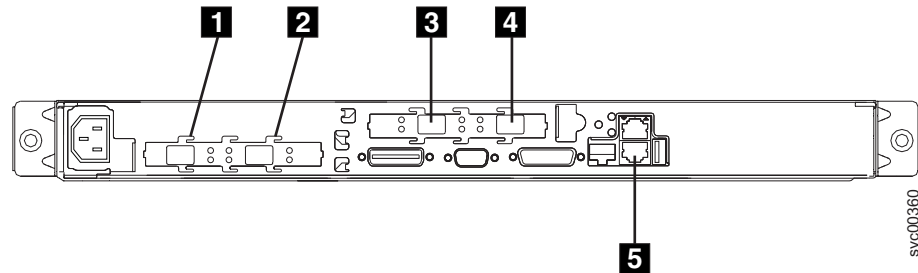

Figure 121. Connectors at the back of the SAN Volume Controller 2145-4F2
1. Connect the Ethernet cable to Ethernet port 1 **5** in Figure 121 on page 137.